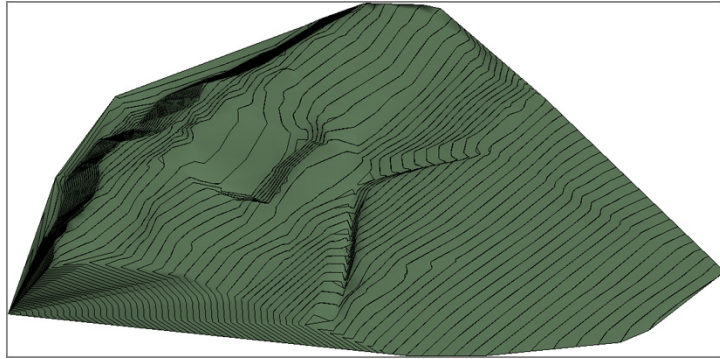

FIGURE 18.35: The new toposurface in Revit
9. Go to a 3D view. Your topography should look like Figure 18.35.